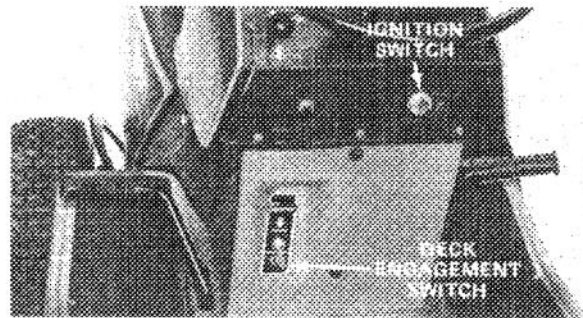
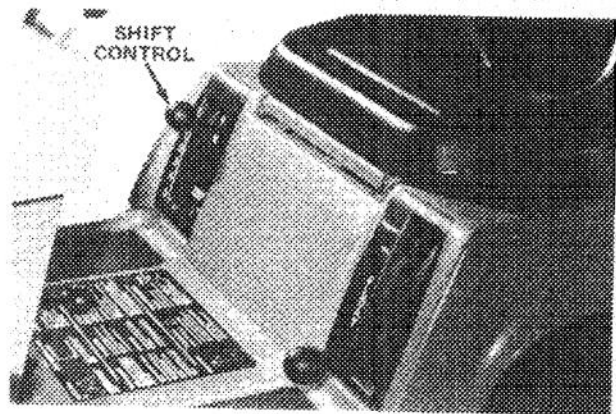

Figure 45
Figure 46
2. Move deck engagement switch (Fig. 45) to the ENGAGE position. Rotate the ignition key to START. Engine should not crank. If engine cranks, the interlock system is malfunctioning and it must be repaired by an Authorized TORO Service Dealer. If engine does not crank, proceed to step 3.
3. Move deck engagement switch to DISENGAGE position (Fig. 45) and place shift control into one of the gear selections (Fig. 46). Rotate the ignition key to START. Engine should not crank; but if it does, the interlock system is malfunctioning and it must be repaired by an Authorized TORO Service Dealer. If engine does not crank, proceed to step 4.
4. Move shift control (Fig. 46) into neutral and deck engagement switch (Fig. 45) to DISENGAGE position. Engage the parking brake to prevent movement of the tractor. Rotate ignition key to START position and start engine. Place the deck engagement switch in ENGAGE position and carefully raise off the seat: the engine should stop running. If engine does not stop running, shut engine off and have interlock system repaired by an Authorized TORO Service Dealer. If engine shuts off when you raised off seat, the interlock system is functioning correctly.